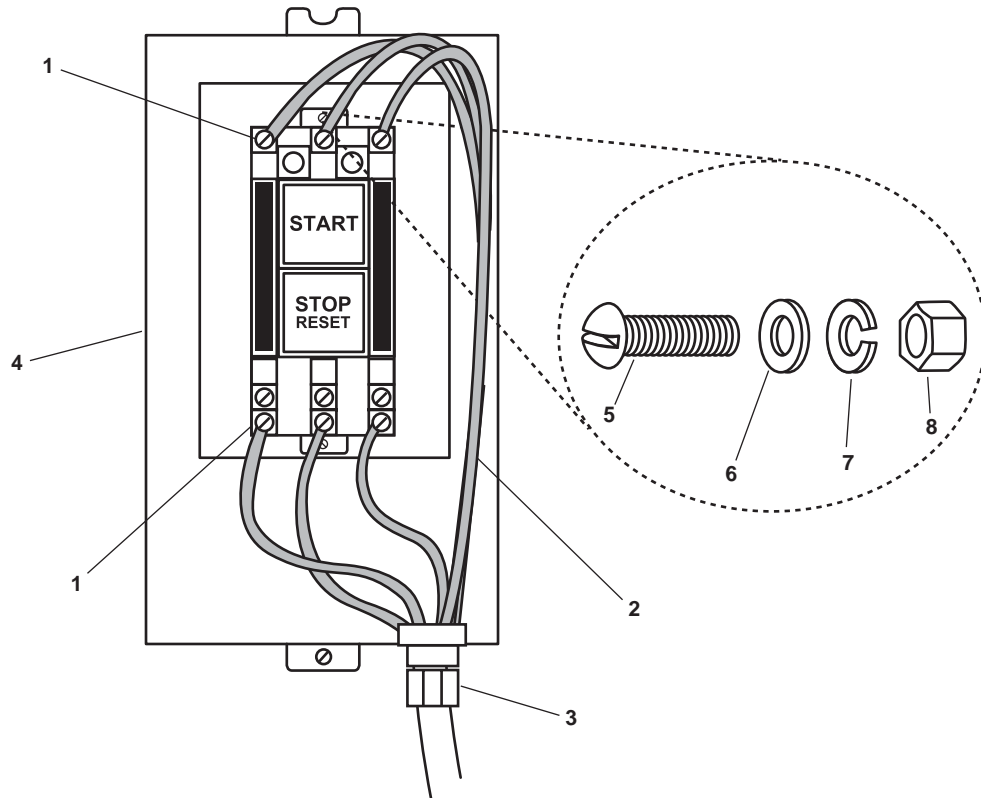

Figure 2. Motor Controller Type 6 - Cover Removed
2. Use a multimeter to check for voltage at the motor controller terminals (figure 2, item 1). If voltage is present, ensure that the appropriate circuit breakers have been secured, locked out, and tagged out. If no voltage is present, continue with this procedure.
3. Label and remove the wiring (figure 2, item 2) by loosening the screws located on the terminals (figure 2, item 1).
4. Remove the electrical connector (figure 2, item 3) from the motor controller (figure 2, item 4) and remove the wiring (figure 2, item 2).
5. Remove the two screws (figure 2, item 5), two flat washers (figure 2, item 6), two lockwashers (figure 2, item 7) and two nuts (figure 2, item 8) that secure the motor controller (figure 2, item 4) to its foundation. Discard the lockwashers.
6. Remove the motor controller (figure 2, item 4) from its foundation.
1. Install the motor controller (figure 2, item 4) on its foundation and secure it with the two screws (figure 2, item 5), two flat washers (figure 2, item 6), two new lockwashers (figure 2, item 7), and two nuts (figure 2, item 8).
2. Install the wiring (figure 2, item 2) in the motor controller (figure 2, item 4) and install the electrical connector (figure 2, item 3).
3. Connect the wiring (figure 2, item 2) to the terminal screws (figure 2, item 1) using the labels from step 3 of Removal as a guide. Remove the labels.